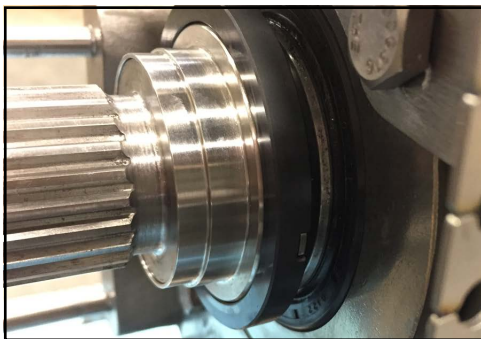

Figure 204 - Rotary seal installed
23. Figure 204 shows the seal installed.